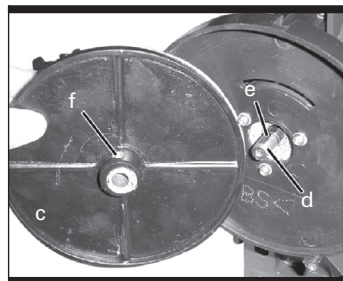

Fig 2
1) Slide sanding disc plate (c), onto drive shaft (d) making certain key (e) in drive shaft (d) fits into keyway (f) of disc plate (c). (Fig 2)